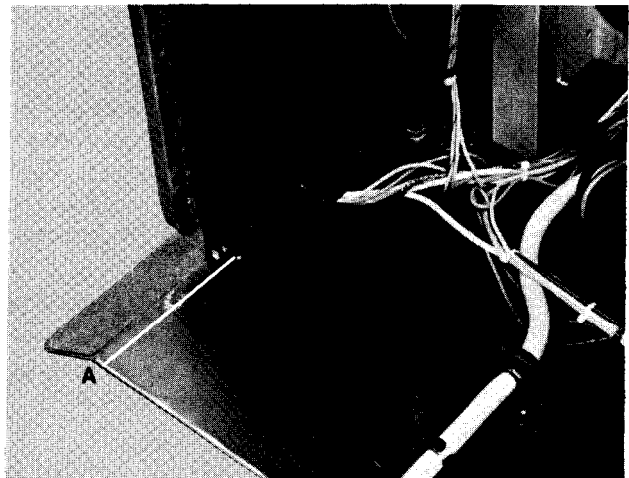

Fig. 10
- 3) Pull panel away from table and remove (3) # 10 Phillips screws, Item A, Fig. 10, located on bottom flange. Lay panel down flat next to table.
- 29) Place panel assembly on table base, align holes, and install (3) # 10 Phillips screws. Item A, Fig. 10.